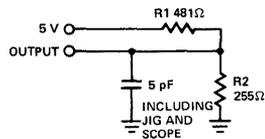

Figure 1b
- At any given temperature and voltage condition, t_{HZ} is less than t_{LD} for all devices. Transition is measured ± 500 mV from steady state voltage with specified loading in Figure 1b. These parameters are sampled and not 100% tested.